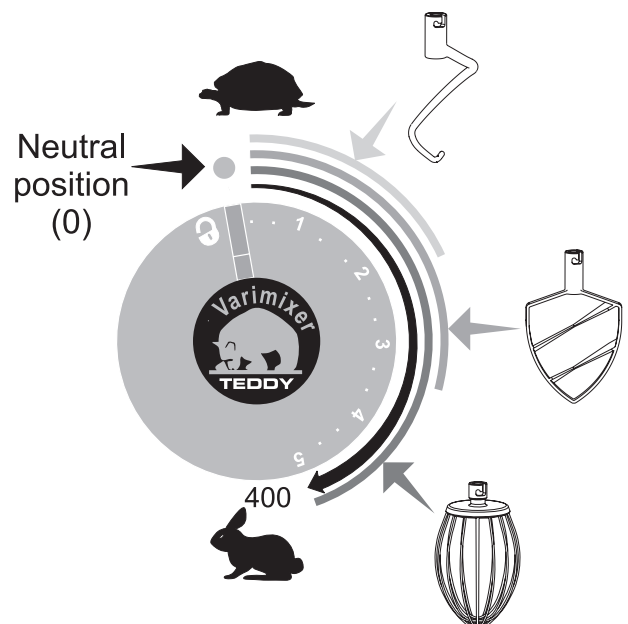

Fig. 2 Recommended working speeds
G. Start the mixer by turning the rotary knobs away from the locking symbol and past 1. To avoid splashing and dust from flour, it is recommended to increase the speed gradually until the required speed is obtained (fig. 3C), (see fig. 2 for recommended working speeds).